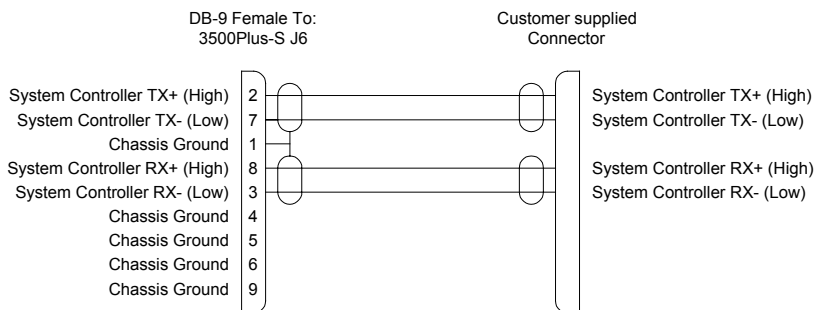

Figure 8. 3500Plus-S RS-422 CPU Link Cable
- COM 4 is an RS-422 CPU Link similar to the RS-232 CPU Link, except the cable may be up to 4000 feet in length and an RS-422 interface card must be installed in the expansion bus. COM 4 may be used with any of the protocols shown in Table 8 on page 11. If necessary, a cable may be fabricated in the field as shown in Figure 8.